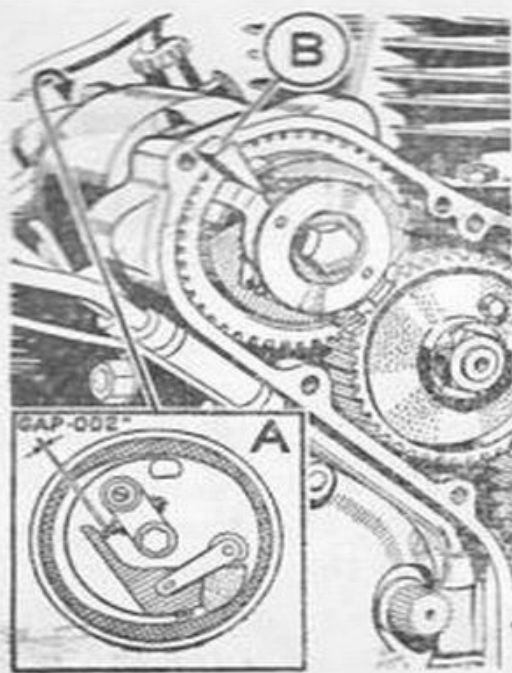

Fig. 8. Automatic Advance. (A7 Standard and A10 Golden Flash).
*A7 Standard, A10 Golden Flash.* Set the automatic advance unit in the fully-advanced position. If the central bridge plate is turned in an anti-clockwise direction the governor bob-weights can be seen to move outwards against the resistance of the springs. This is the fully-advanced position and the weights should be wedged as shown at *B*, Fig. 8, for timing purposes.
*Rotate the contact breaker at the opposite end of magneto, in its normal direction of rotation until the contact points are just open (not more than .002 in.), see A, Fig. 8.*
**Automatic Advance Unit.** (Fig. 8; A7 Standard and A10 Golden Flash only).